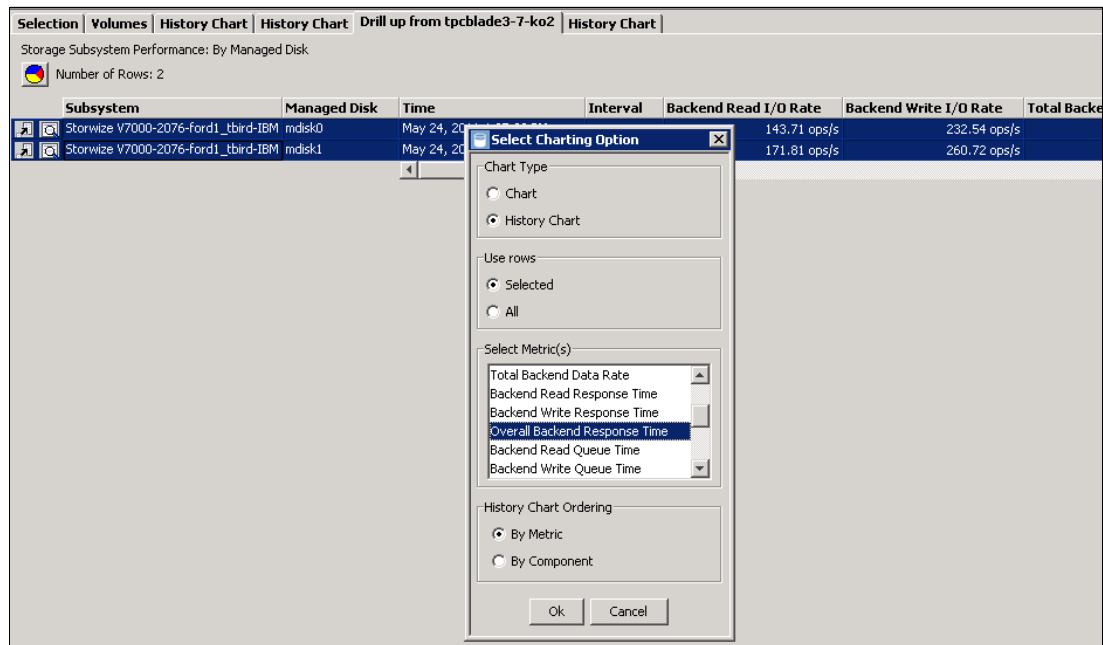

Figure 13-114 Storwize V7000 metric selection
- c. In the Select Charting Option window (see Figure 13-114 on page 450), select **Overall Backend Response Time**, and then click **OK**.